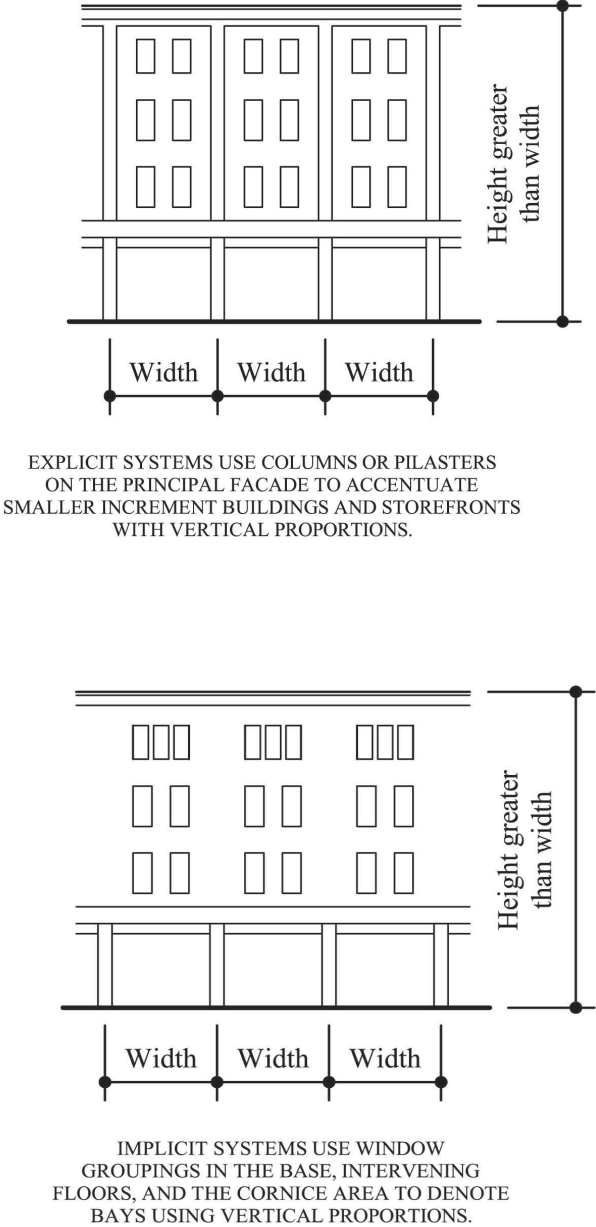

Figure 1
- » Commercial structures exceeding 60 feet in any horizontal dimension shall set up an implicit or explicit system of bays. Implicit systems use window groupings in the base, intervening floors and the cornice area to denote bays. Explicit systems use columns or pilasters on the principal facade to accentuate smaller building increments and/or individual storefronts. Implicit systems use material changes horizontally and the base of the building or storefront to accentuate smaller building increments. See Figure 1.
- » Buildings should be designed to reduce apparent mass (potentially excluding office buildings in Pinehurst South which may have similar floor plates on all stories) and accentuate vertical proportions. See Figure 1.